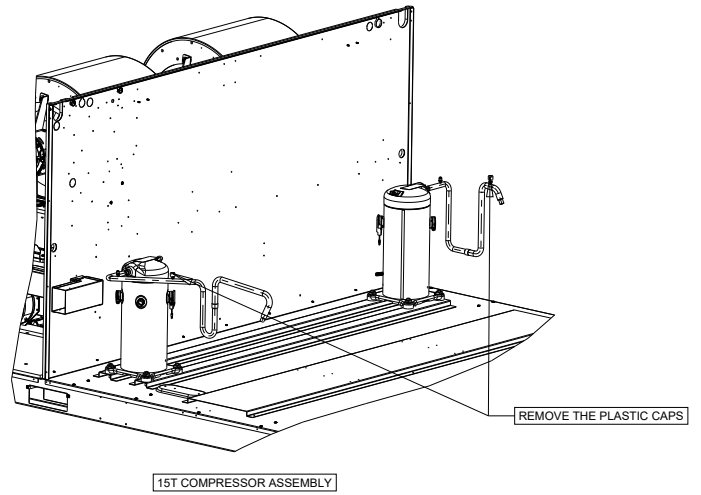

FIGURE 32
5. Remove the plastic caps from the two discharge line access fittings. See Figure 32 & 33.